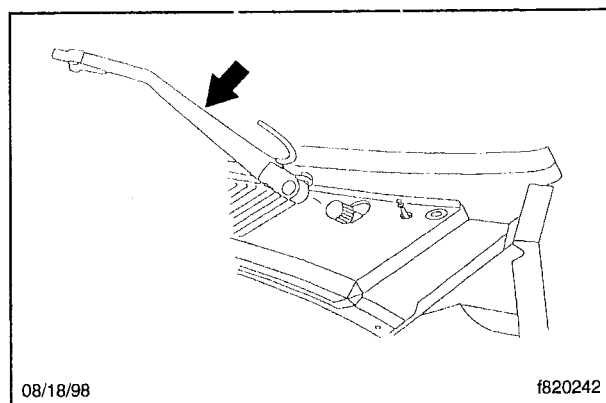

Fig. 4, Windshield-Wiper Pivot Arm
- 6.4 Lift the pivot arm from the mounting arm and pivot shaft. See **Fig. 4**.
- 14.1 Install the pivot arm onto the mounting arm and pivot shaft. See **Fig. 4**.